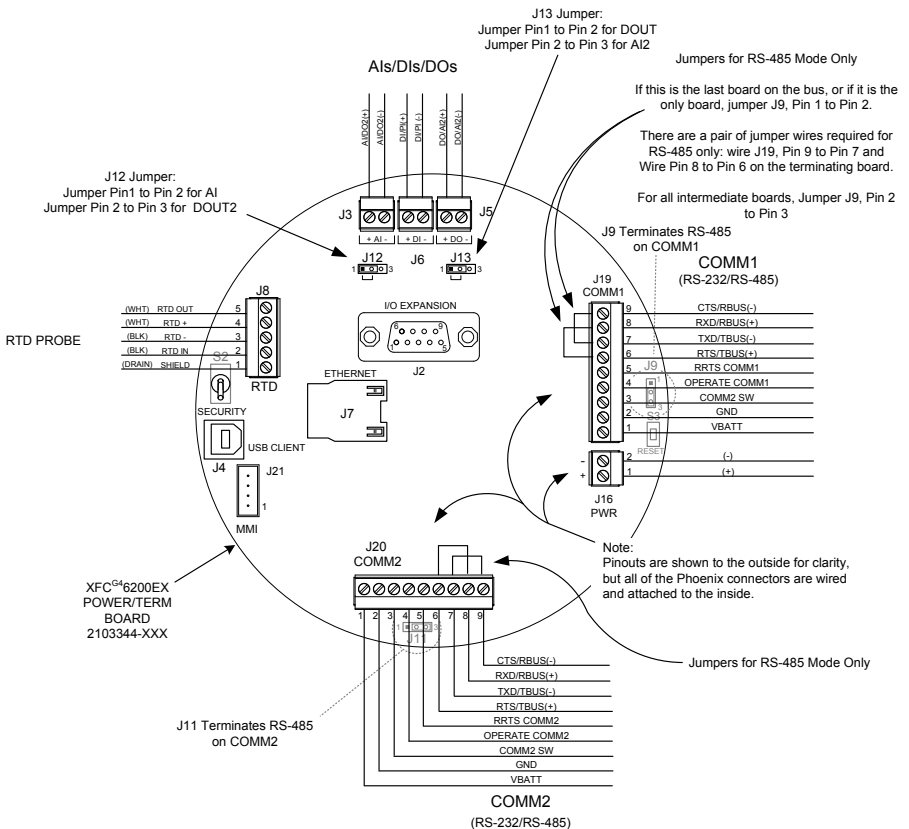

Fig. 11: G4 EX termination board
6. Remove J8 connector from the G4 EX termination board and begin field wiring (Fig. 11).
The ABB OEU (if purchased) may contain the power supply, battery and any optional communication equipment. If the user is providing their own power and/or communications enclosure, refer Fig. 11 for field wiring.
3. Wire all connections inside of the G4 EX using Fig. 11, Table 1 and Table 2. This may include communication to COMM1 (J19), COMM2 (J20), input/output (J3–J5), optional IO expansion (J2), Ethernet (J7) and Power (J16).